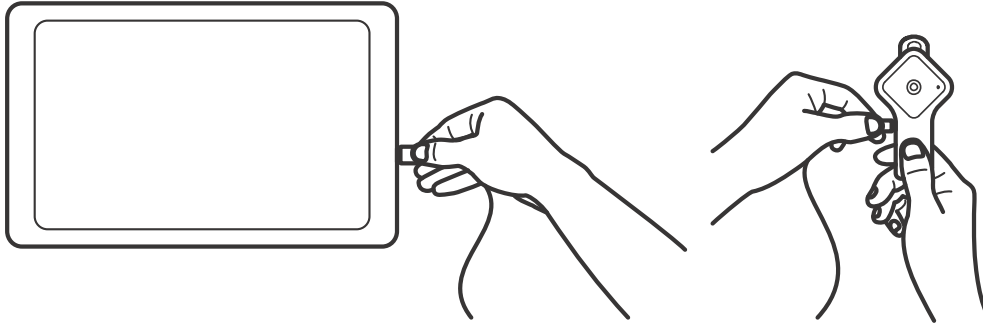

Fig. 2
8.4.1. Connect the device to your mobile device via microUSB-microUSB cable. To do this, insert the microUSB cable connector into microUSB-port of the mobile communication device, microUSB-connector insert into the USB-port of ROFES device (Fig. 2). The green light signal starts flashing on the ROFES E01C device.